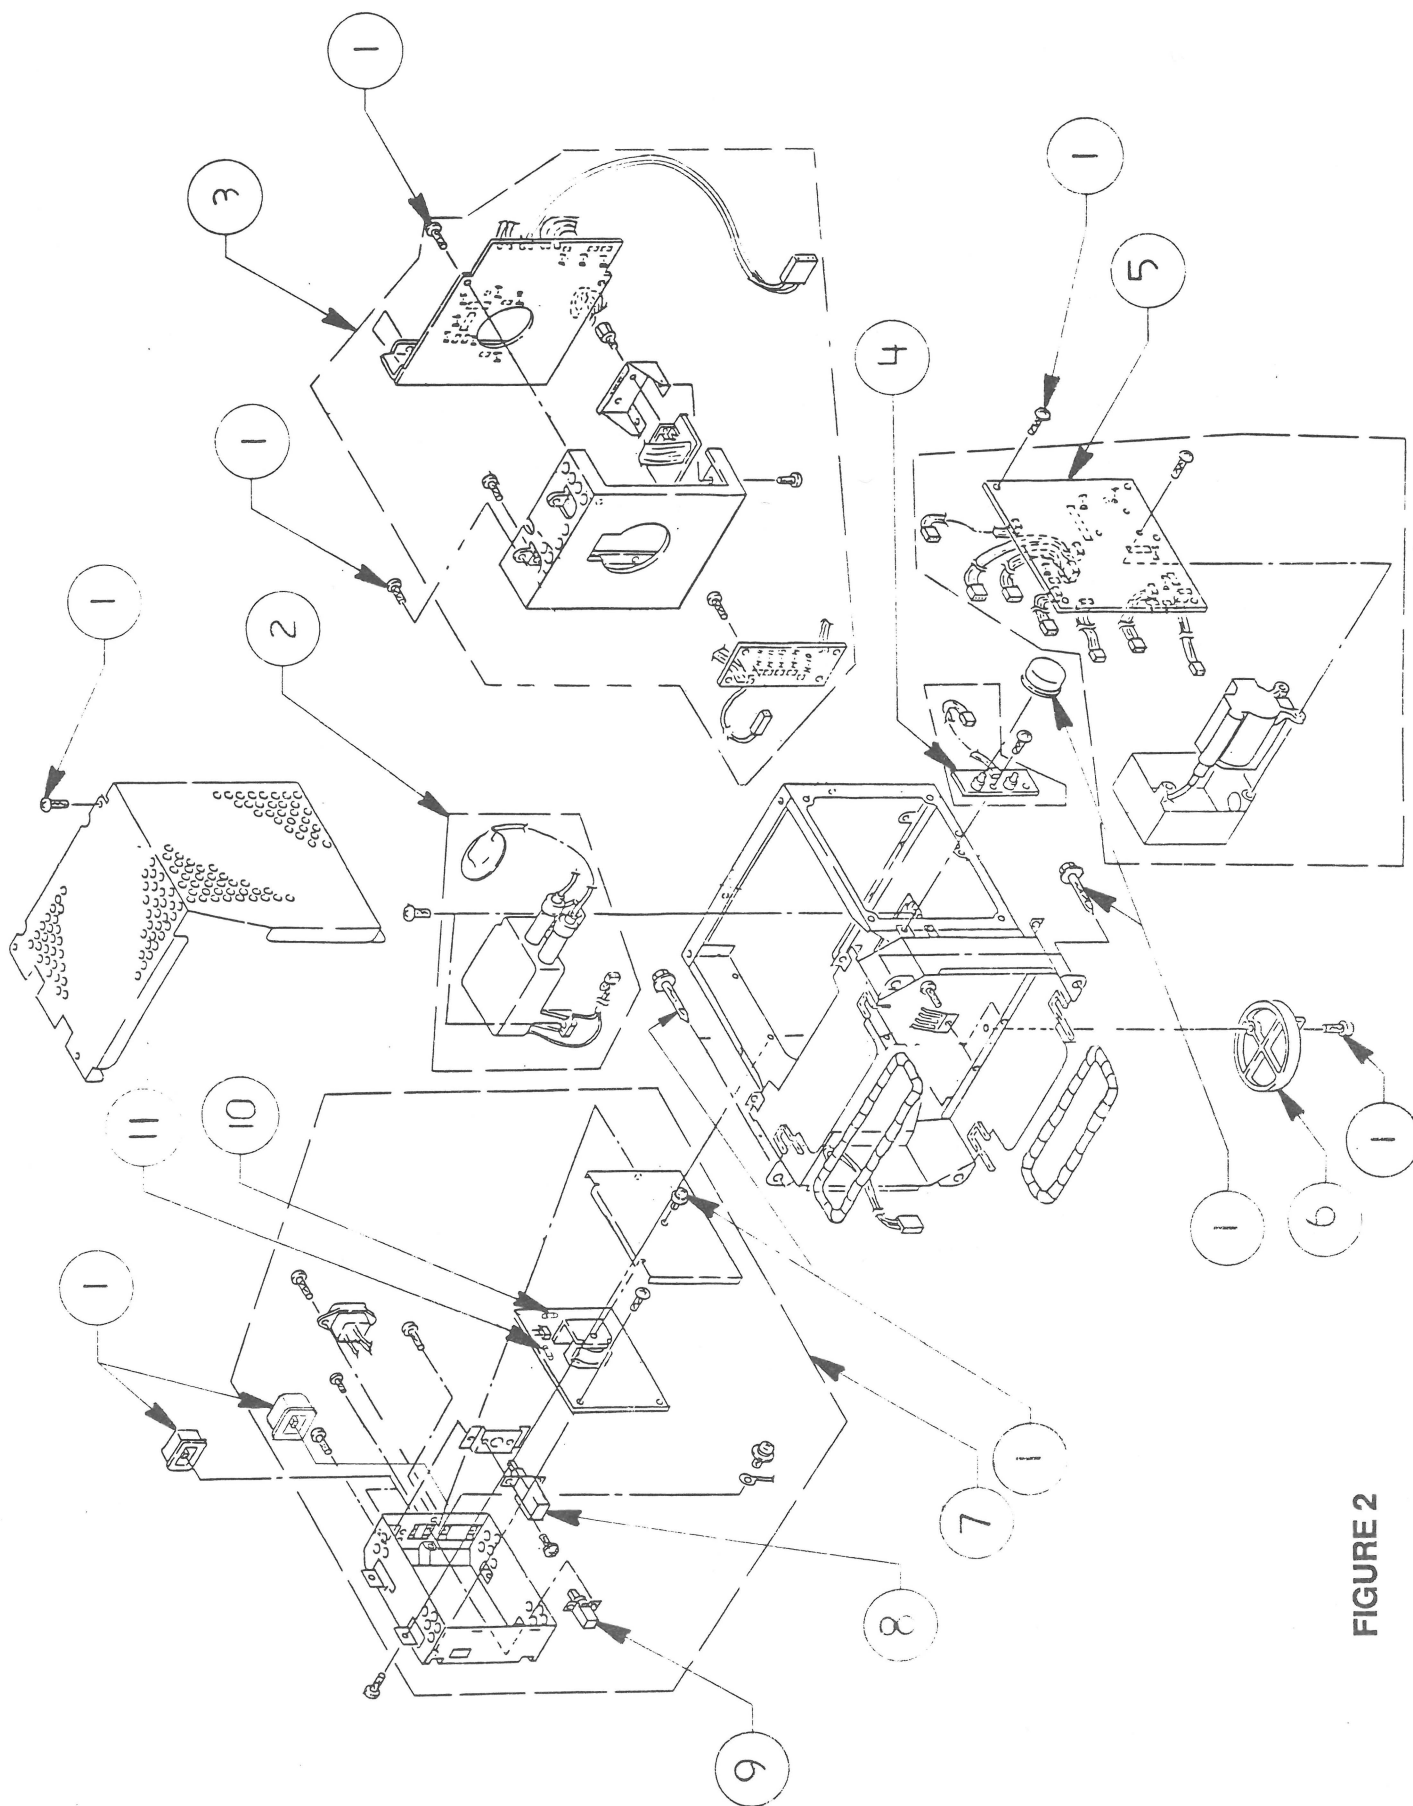

FIGURE 2
- IPL.5 Internal Assembly (Figure 2)
□ INTERNAL ASSEMBLY (Figure 2)